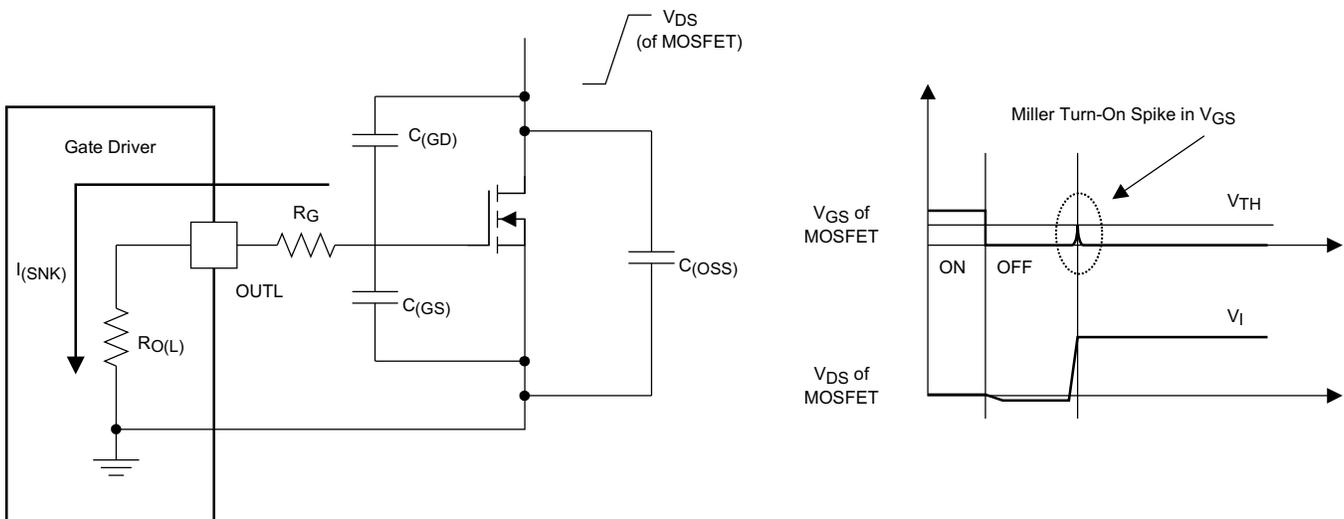

Figure 24. Very-Low Pulldown Impedance in UCC27511A-Q1, 4-A and 8-A Asymmetrical Drive (Output Stage Mitigates Miller Turnon Effect)
An example of a situation where the Miller turnon effect is a concern is synchronous rectification (SR). In an SR application, the dV/dt occurs on the MOSFET drain when the MOSFET is already held in off state by the gate driver. The current discharging the C_(GD) Miller capacitance during this dV/dt is shunted by the pulldown stage of the driver. If the pulldown impedance is not low enough then a voltage spike can result in the V_{GS} of the MOSFET, which can result in spurious turnon. This phenomenon is shown in Figure 24. The UCC27511A-Q1 device offers a best-in-class, 0.375-Ω (typ) pulldown impedance boosting immunity against Miller turnon.